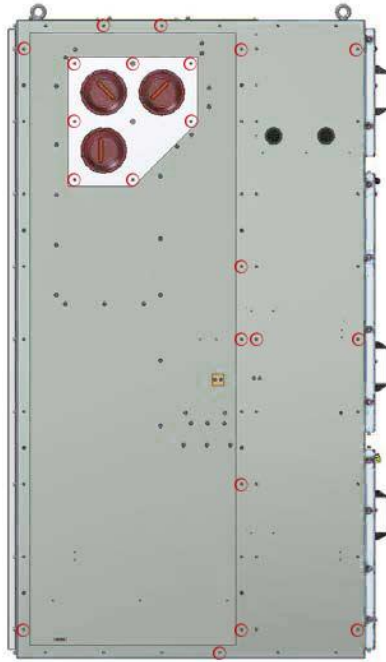

Figure 35
3. Install 20 bolts M8x20 from the inside right side of the panel in places, marked by a red circle, see Figure 35;